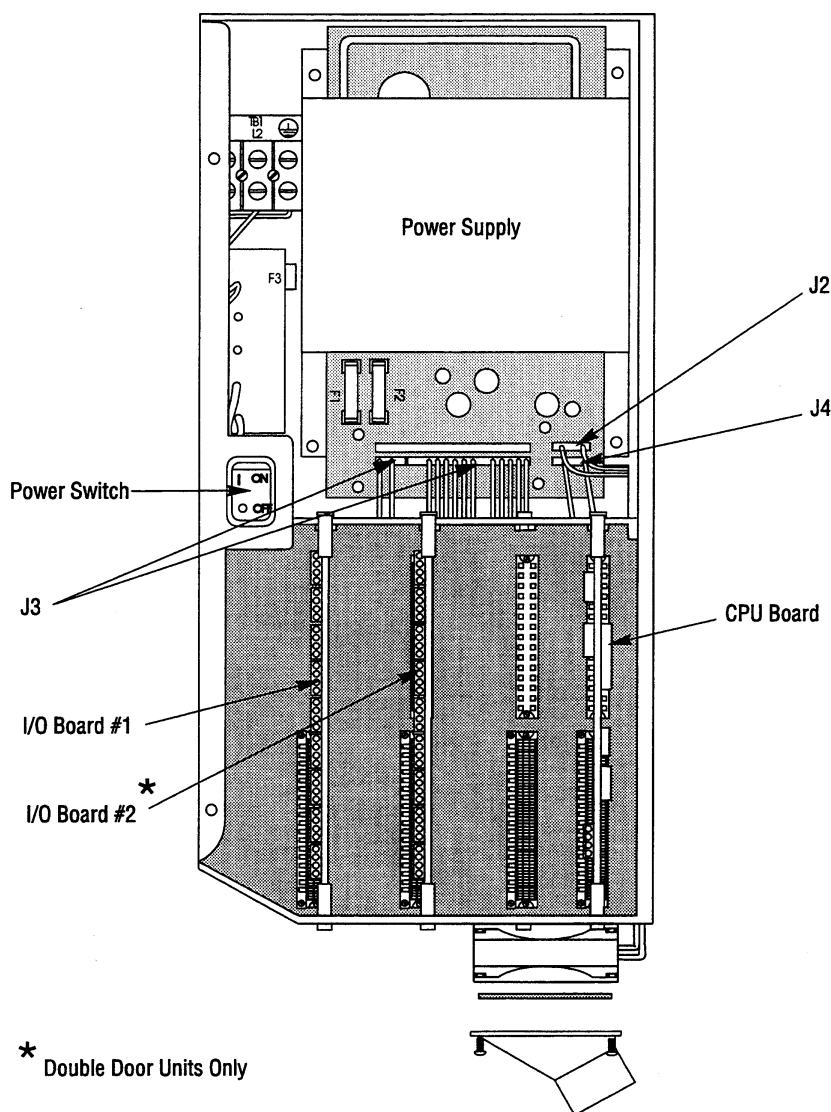

Figure 8-14. Control Components
Remove and replace Flash Memory chips on CPU board (refer to Figure 8-14).
Refer to Figure 8-14 for location. Remove I/O board as follows.
Refer to Figure 8-14 for location. Remove the power supply.
2. Turn power switch (see Figure 8-14) OFF.
2. Turn power switch (Figure 8-14) OFF.